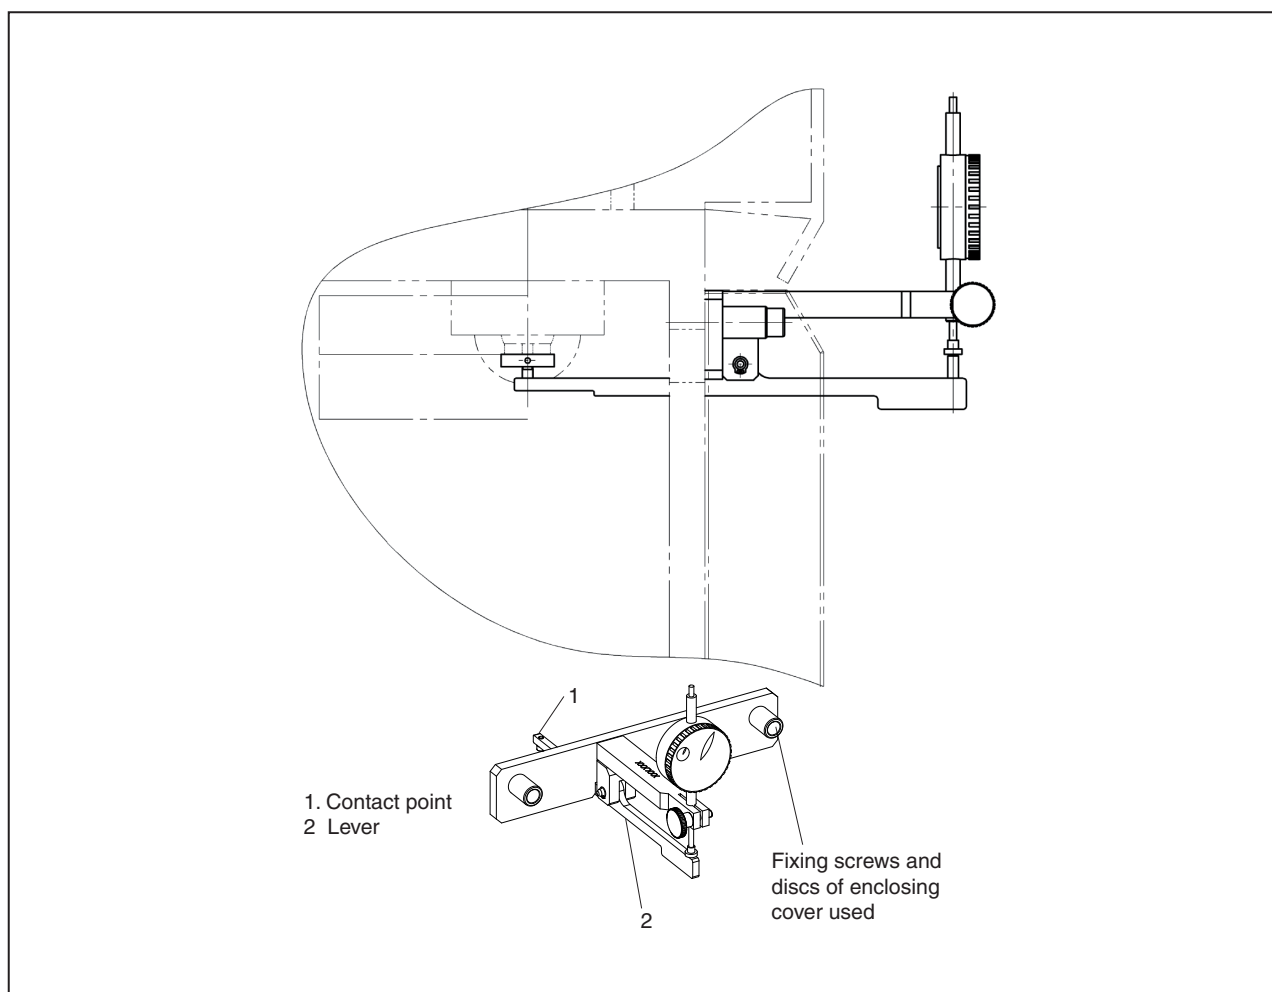

Fig 1 Fitting position of the contact point.
**Note:** During attaching, pay attention to the correct fitting position of the contact point, see fig 1.